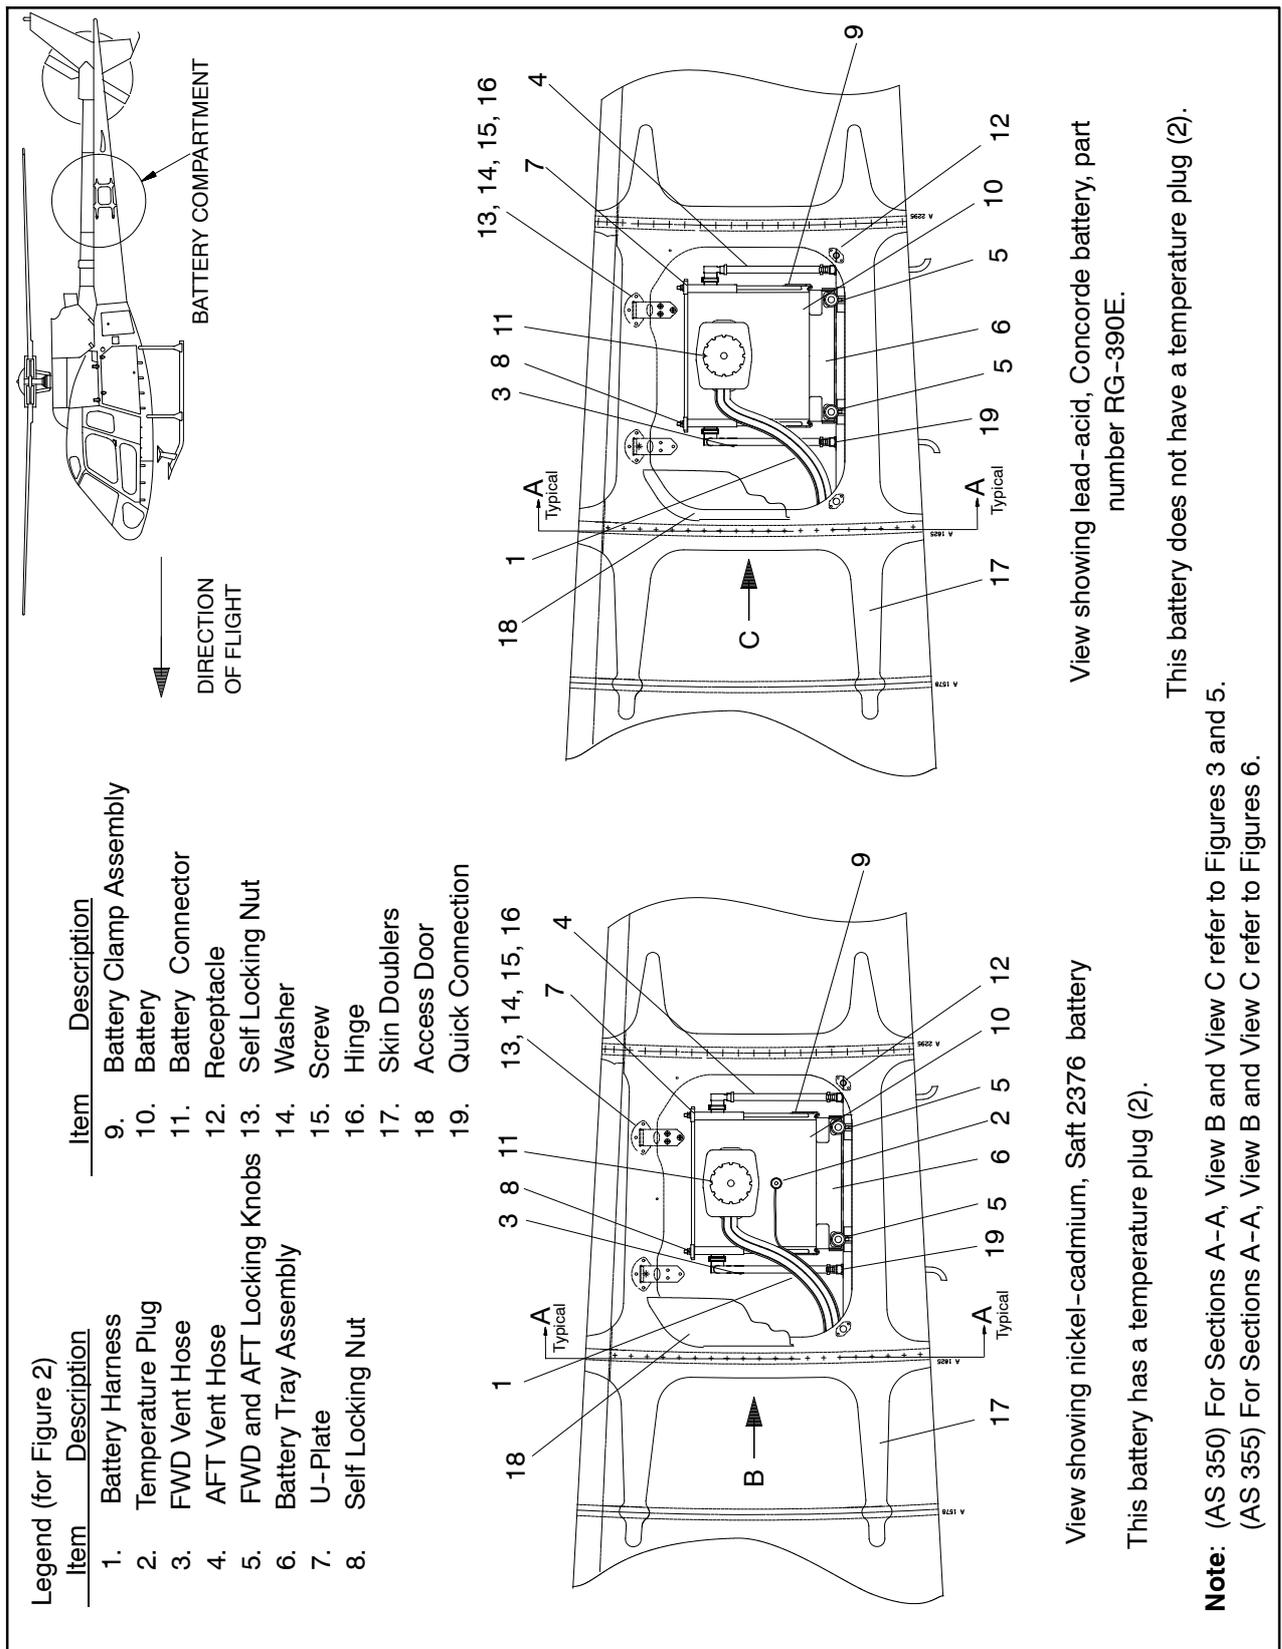

Figure 2 AS 350 and AS 355 Battery Compartment (main views)
- Battery Tray Assembly (Refer to Figure 2)
- Battery Harness (Refer to Figure 2)
- Skin Doublers (Refer to Figure 2)
For VIEW B and VIEW C locations refer to Figure 2.
Note: For Section A-A, VIEW B and VIEW C locations refer to Figure 2.